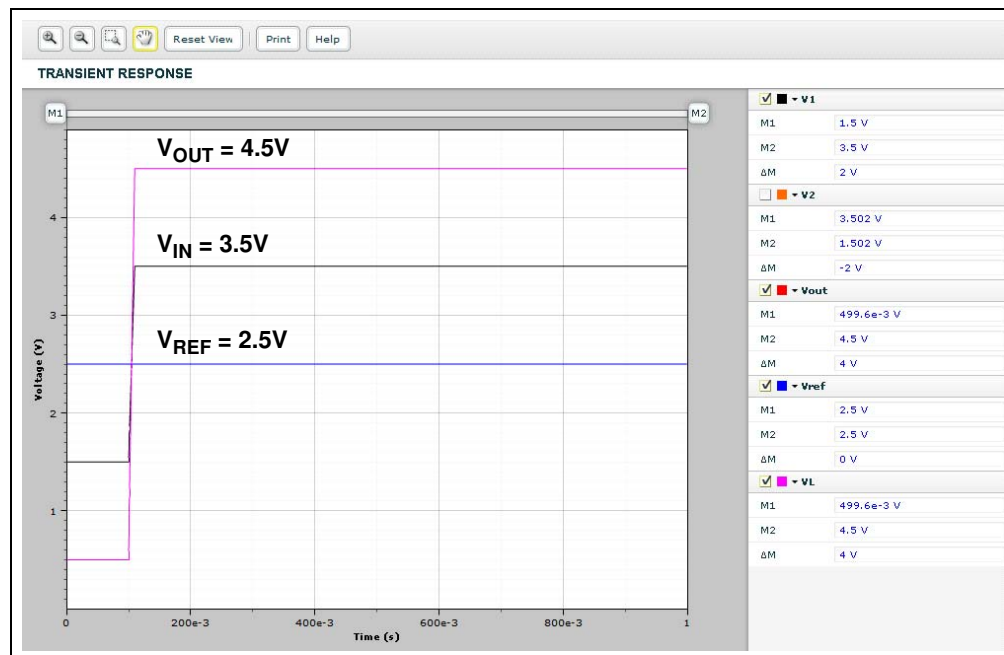

FIGURE 2-15: Simulated Step Response.
- The simulated step response is shown in Figure 2-15. It is a signal with a step amplitude of 4.0V and a center voltage of 2.5V. (i.e. V_{OUT} starts 2.0V below center and ends 2.0V above center)